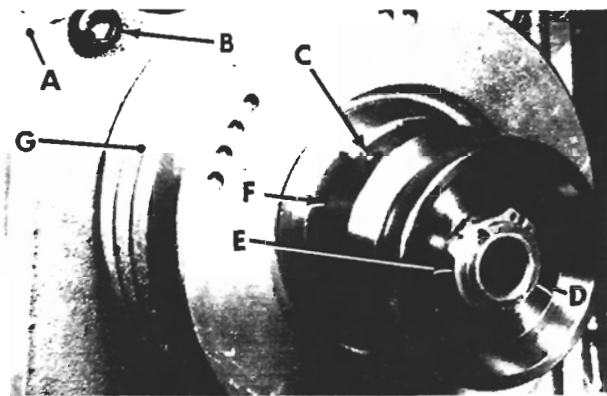
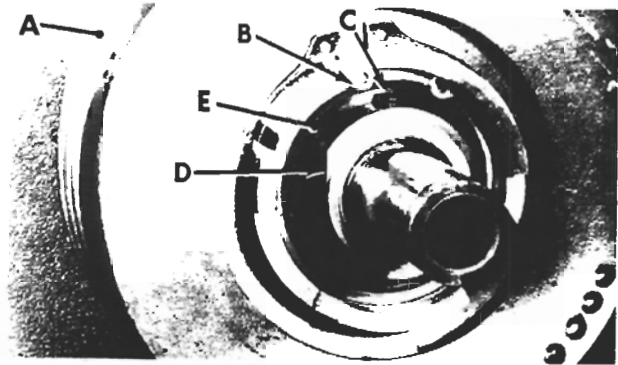

Figure 18
Figure 19
5. Slip spindle belts off pulley (G, fig. 18).
7. Remove retainer ring (E) from rear of spindle (D).
8. Take out two set screws (C), ball and spring. Remove drive coupling (F).
9. Loosen set screw (C, fig. 19). Remove collar (D) and brass plug.
10. Remove drive gear housing pulley assembly (A) from spindle.
- A. Remove retainer (B, fig. 19).
- B. Press bearings (E) and spacer out rear of assembly.
13. Remove eight cap screws (B) from back plate (A, fig. 18).